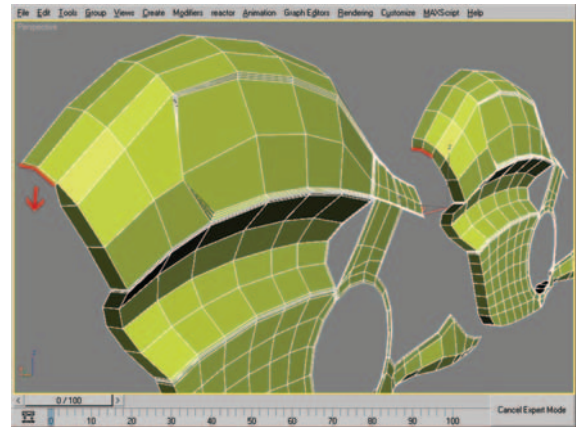

Figure 8.74 Edge selection before (left) and after moving with the Move tool (right).
73. Select the two edges seen in Figure 8.74 (left) and use the Move tool to reposition them to the location seen in Figure 8.74 (right). I also did some moving of vertices with Edge Constraints active to make a smoother shape when subdivided.